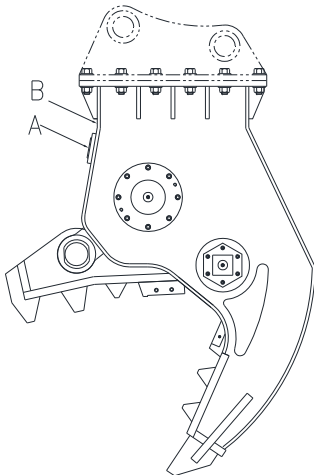

Fig 2-1 Equipment Identification
Refer to Figure 2-1. The Serial Number assigned to this equipment is found in the following locations:
- Record the equipment's serial number to the space provided below. This information may be obtained from the Equipment Identification Tag. Refer to Fig 2-1 for the location of the tag.